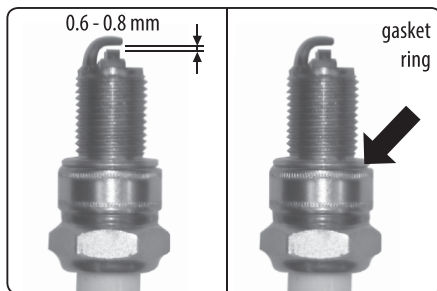

Fig. 12
- If the spark plug is visibly significantly worn out or if the insulator is cracked or it is peeling, replace the spark plug. Using callipers, check that the distance between the electrodes is 0.6-0.8 mm and that the gasket ring is in order (see fig. 12).